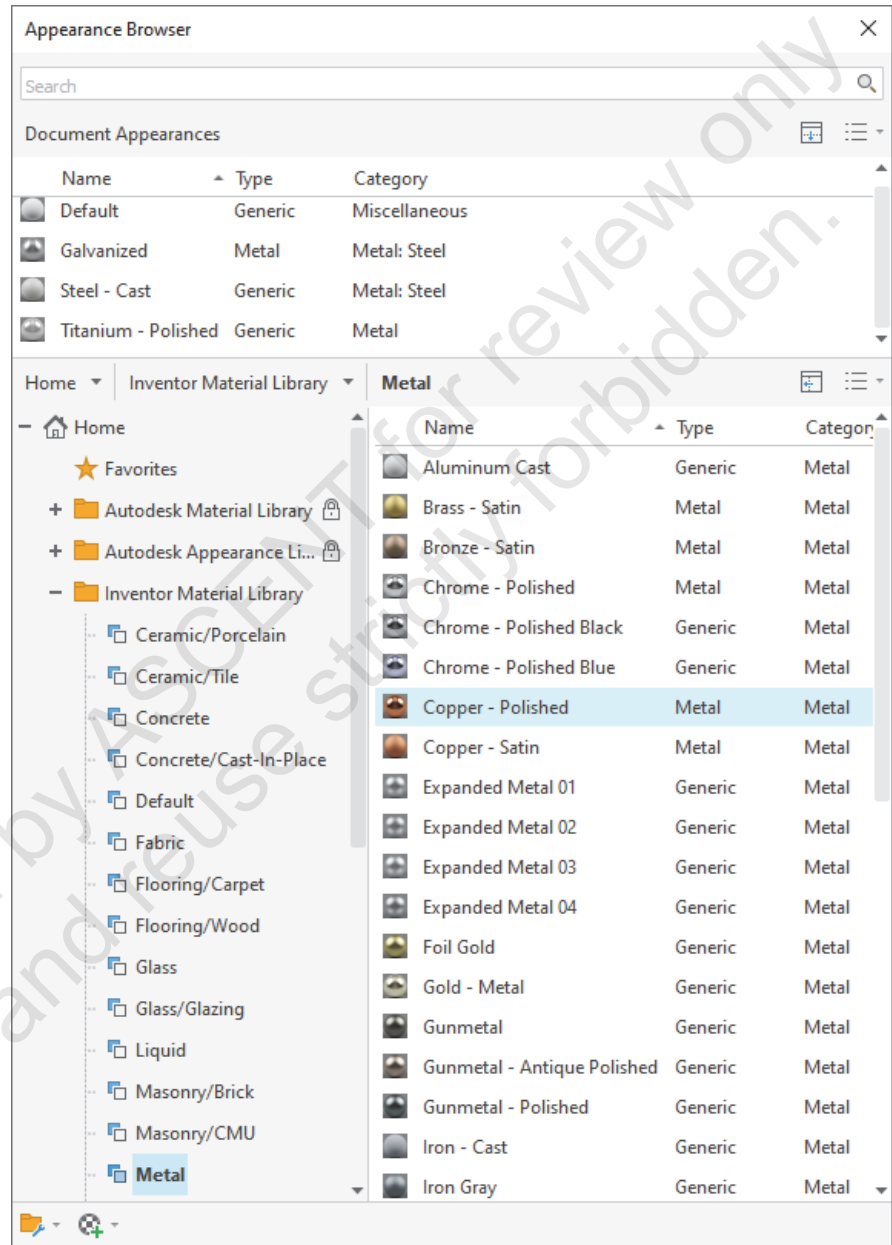

Figure 1–32
5. Which of the following statements are true regarding the Appearance Browser dialog box shown in Figure 1–32? (Select all that apply.)